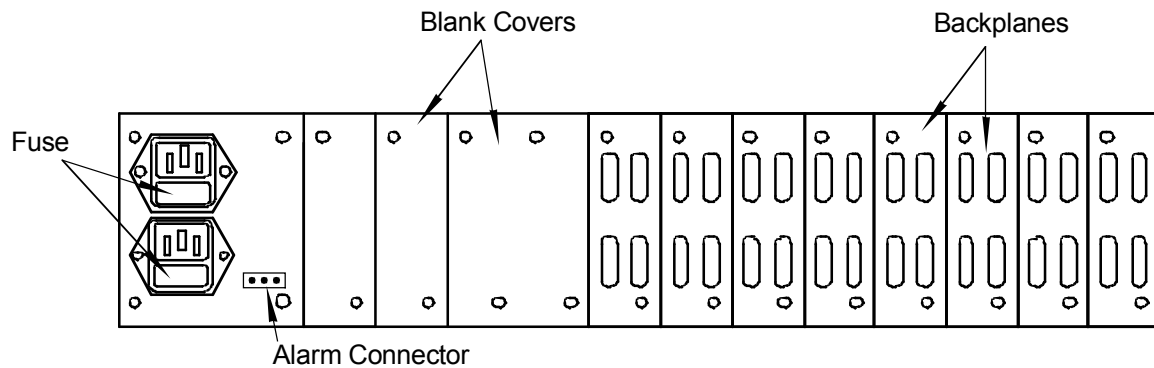

Figure 3 - Rear Panel Layout
3. Replace the appropriate frame rear panel covers with the captive backplanes furnished with each active module, leaving unused slots covered. Use the 2.5 mm Allen wrenches supplied for your convenience. The backplane mounting holes are oriented such that the assembly cannot be installed incorrectly. Figure 3 - Rear Panel Layout provides more detail. Ensure proper alignment of each active module to its backplane with the following procedure: